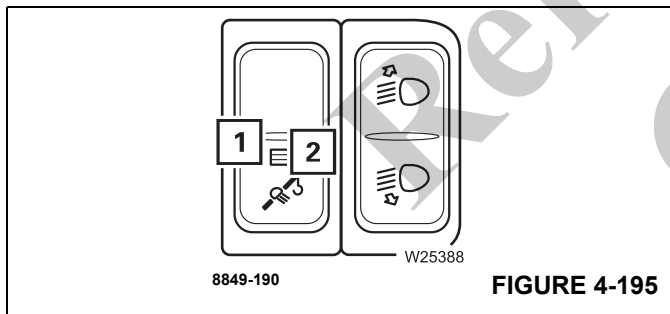

FIGURE 4-195
With the relevant equipment, the slewable spotlights (1), (Figure 4-195) are located on the main boom. They are controlled from the crane cab.
- Push the switch (1), (Figure 4-195) down – the lamp (2), (Figure 4-195) lights up.
- Push the switch (1), (Figure 4-195) up – the lamp (2), (Figure 4-195) goes out.